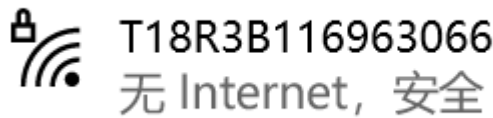

Figure 3-1: Access point name
2. The wireless access point name will be shown up which is same as the serial number as shown in Figure 3-1. The password is **12345678**.